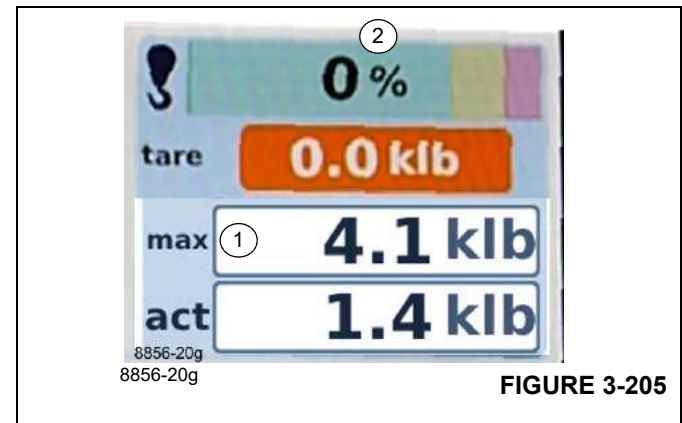

FIGURE 3-205
Display: Maximum load (1), (Figure 3-205) in tons (t) or kilo-pounds (klbs) for the displayed RCL code
Degree of utilization = 100 x current load/maximum load (2), (Figure 3-205).